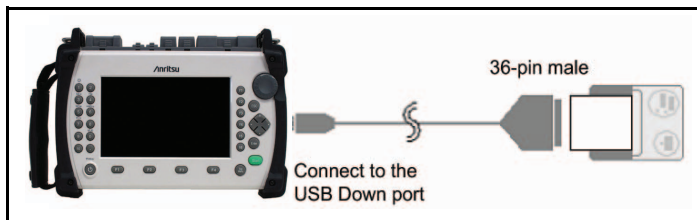

Figure 4-44: Connecting the BL-80RII Printer
1. Connect the BL-80R11 or SD1-31 printers to the MT9083 Series as shown in Figure 4-44, and then power up the printer.